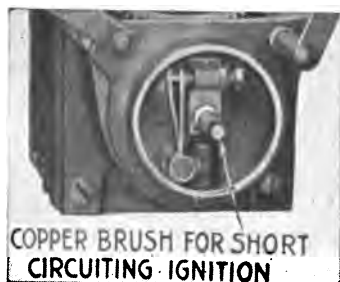

Fig. 442. Eisemann G-4
**Eisemann G-4 1st Edition Magneto.** This is the weatherproof type Eisemann. The armature differs slightly from the general practice, having the collector ring on the breaker end instead of the drive end, while the condenser is on the drive end. Two sharp screws in line with the sharp edge of the collector ring and projecting from the gear housing act as the safety spark gap. The breaker, Fig. 442, has a different type of breaker arm, consisting of a flat spring which carries a platinum point re-enforced